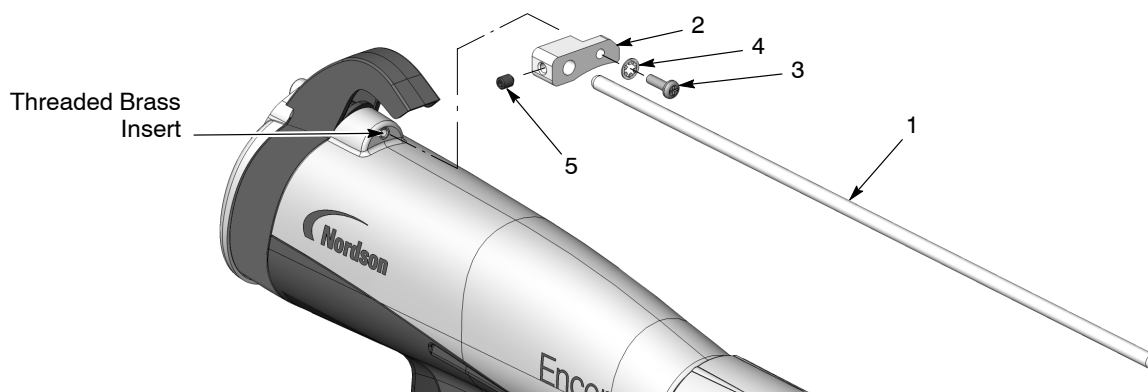

Figure 2 Installing the Ion Collector Kit on a Standard Spray Gun
1. See Figure 2. If the threaded brass insert is not visible in the center of the boss on the gun body, use a utility knife to remove the plastic flash covering the insert.
2. Install the rod bracket (2) on the boss with the pan-head screw (3) and lock washer (4).
3. Slide the collector rod (1) through the bracket.
4. Install the set screw (5) into the rod bracket. Do not tighten it until you have adjusted the position of the end of the collector rod.
1. See Figure 2. Slide the collector rod (1) back through the rod bracket until the end is 102–127 mm (4–5 in.) from the front end of the spray gun.
2. Start your powder coating system. While coating parts, slide the collector rod forward until the current shown on the control unit display is 5 to 7 μA higher than the current values you recorded before you installed the kit. Tighten the set screw (5) to secure the rod.